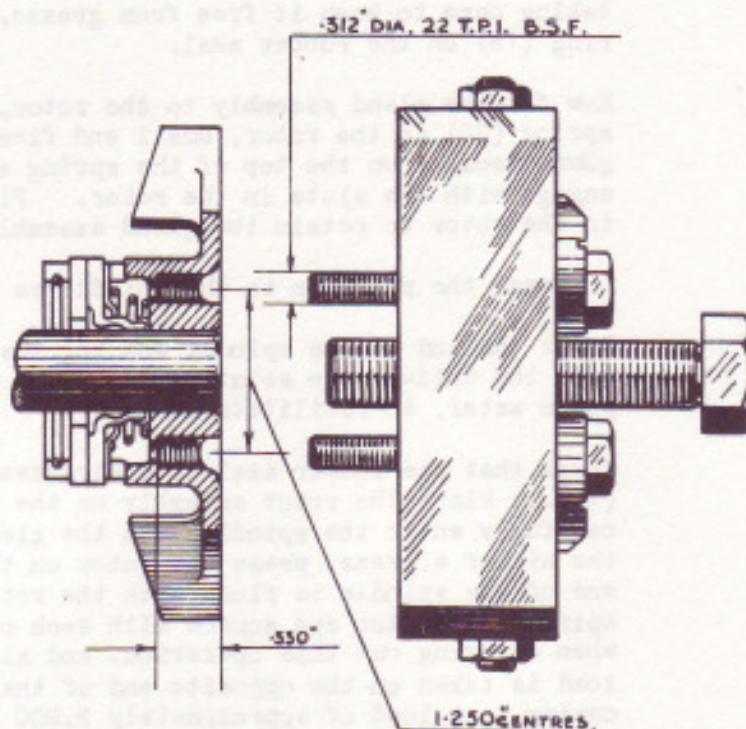

FIG. 7. DIMENSIONS FOR DRILLING AND TAPPING EXTRACTOR HOLES IN EARLY TYPE ROTORS AND ALSO VIEW OF EXTRACTOR STD. 505.
Remove the backing plate (22) from the pump by removing the four nuts, flat spring washers and bolts (12 and 13) thus exposing the rotor. On early cars no tapped holes were provided in the rotor for extraction purposes. On later cars, however, a modified type rotor was fitted in which tapped holes were provided. If it is found upon removing the backing plate that these holes do not exist then mark off and drill two holes diametrically opposite, .265" diameter at 1.250" centres, drill .600" deep in the face of the rotor and then tap .312" diameter, 22 T.P.I. (5/16" B.S.F.) for a depth of .530" fully formed. (See Fig.7.)